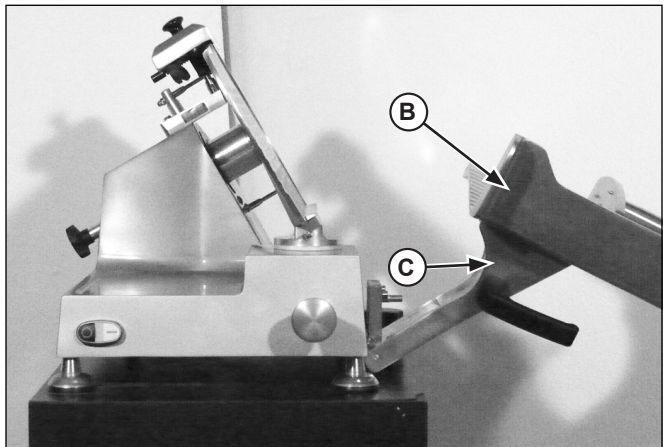

Figure 8. Carriage Tray and Silicone Seal
- The silicone seal (C) is to be inspected by qualified personal a minimum of every six months. See Figure 8. If the seal is faulty **do not use**. Have the equipment serviced by an authorized Vollrath service agency.